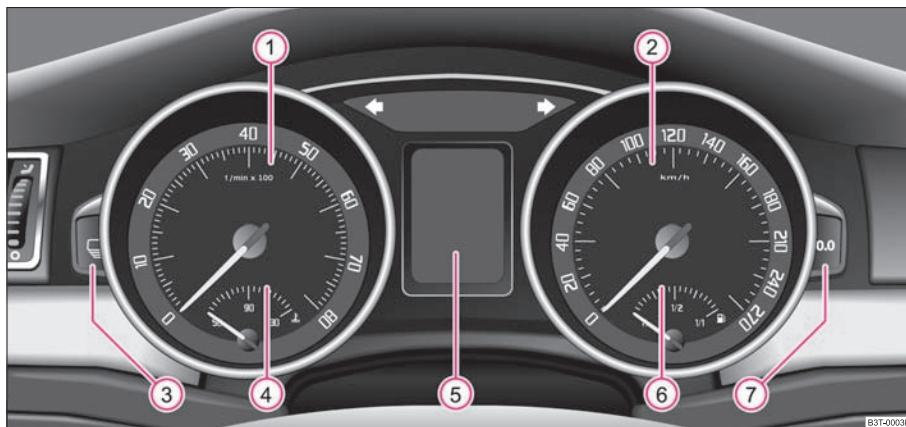

Fig. 2 Instrument cluster
The red zone of the rev counter scale ① ⇒ page 10, fig. 2 indicates the range in which the engine control unit begins to limit the engine speed. The engine control unit restricts the engine speed to the steady limit value.
The coolant temperature gauge ④ ⇒ page 10, fig. 2 operates only when the ignition is switched on.
The fuel gauge ⑥ ⇒ page 10, fig. 2 only operates when the ignition is switched on.